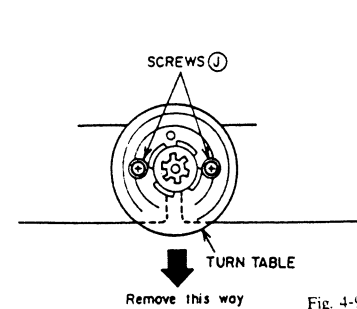

Fig. 4-9
- 1) Remove two fixation SCREWS ㉞ of the SPINDLE MOTOR through the hole on the TURN TABLE as shown Fig.4-9.